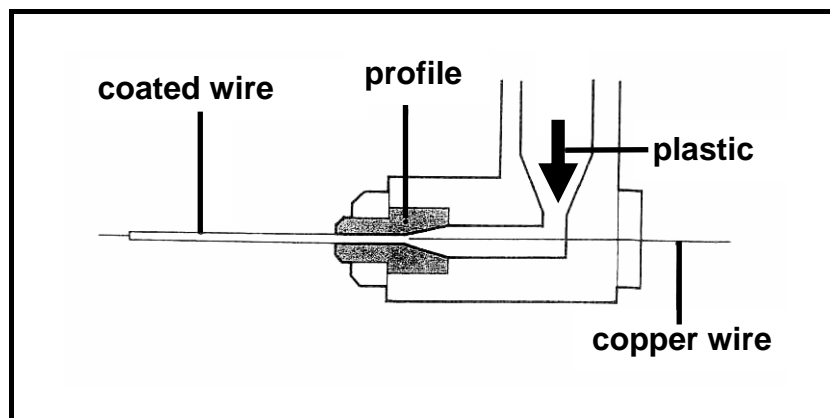

FIGURE 4.4
- 4.4 Electrical cable is made by extruding a plastic coat onto copper wire as shown in FIGURE 4.4 below. Name TWO plastics which are used for this purpose and also give ONE reason for the suitability of each.